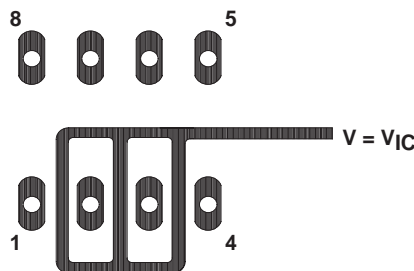
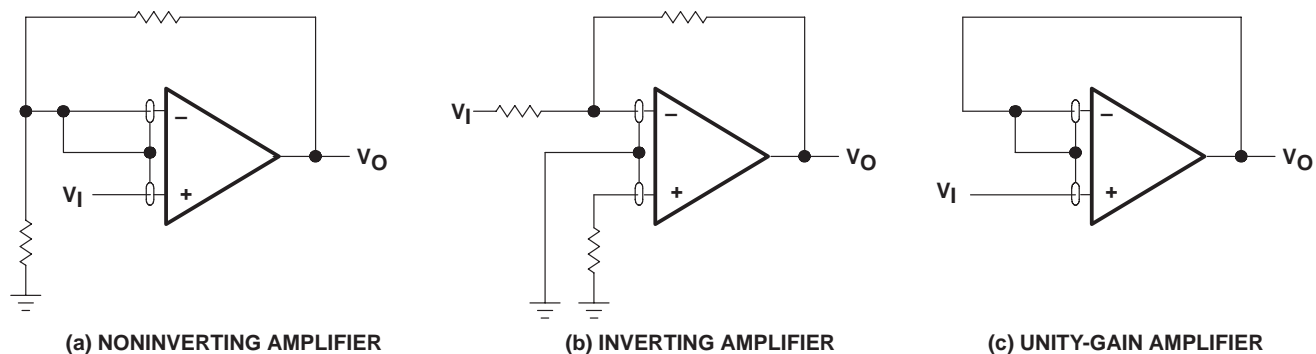

Figure 36. Isolation Metal Around Device Inputs (JG and P packages)
Figure 41. Guard-Ring Schemes
1. Isolate the device from other potential leakage sources. Use a grounded shield around and between the device inputs (see Figure 36). Leakages that would otherwise flow to the inputs are shunted away.
Because of the extremely high input impedance and resulting low bias-current requirements, the TLC27L1 is well suited for low-level signal processing; however, leakage currents on printed circuit boards and sockets can easily exceed bias-current requirements and cause a degradation in device performance. It is good practice to include guard rings around inputs (similar to those of Figure 36 in the Parameter Measurement Information section). These guards should be driven from a low-impedance source at the same voltage level as the common-mode input (see Figure 41).